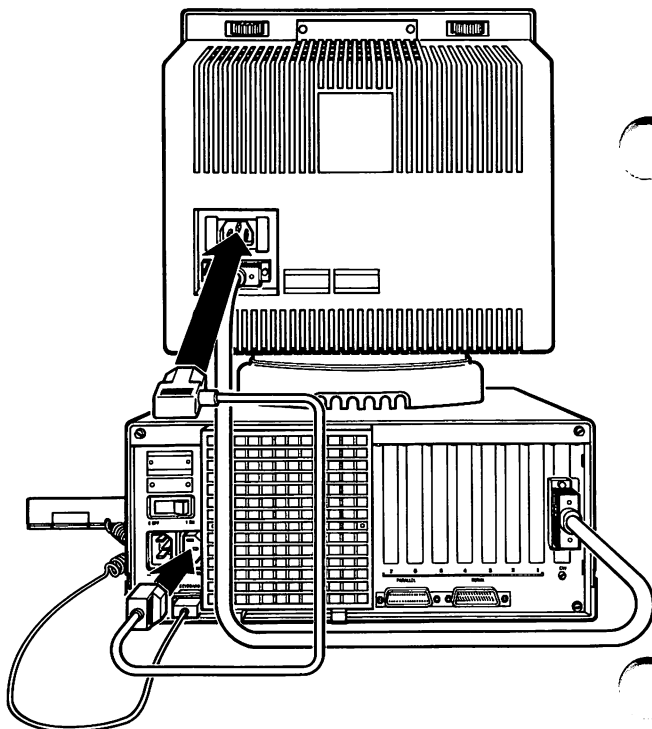

Figure 1-14. Connecting the color display power cord.
- Insert the female plug into the power socket on the back of the display unit, and the male (pronged) plug into the power socket on the rear of the processor (Fig. 1-14).